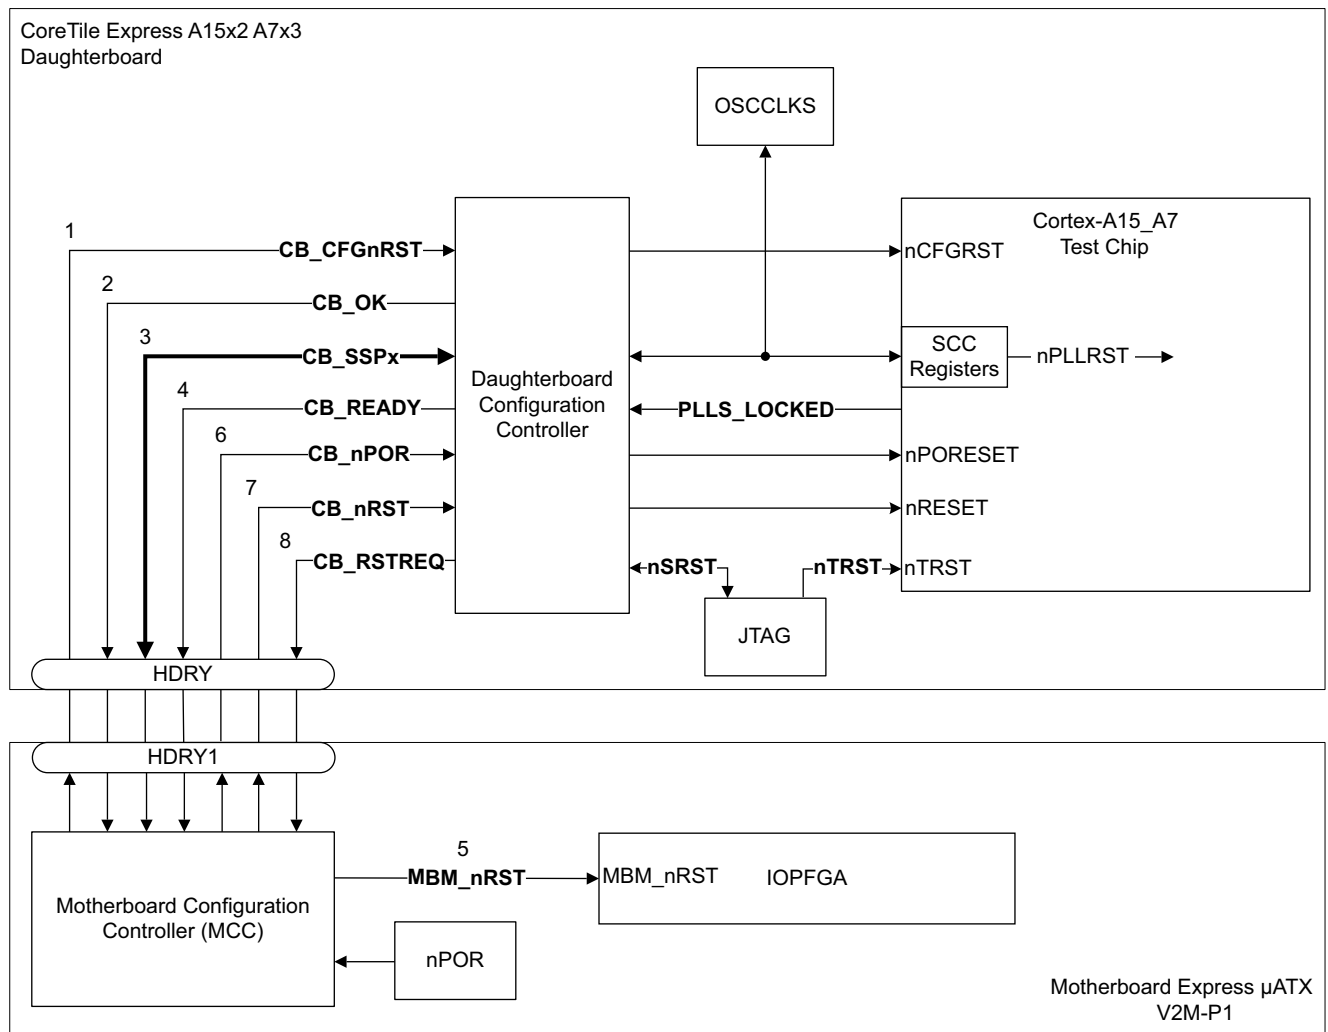
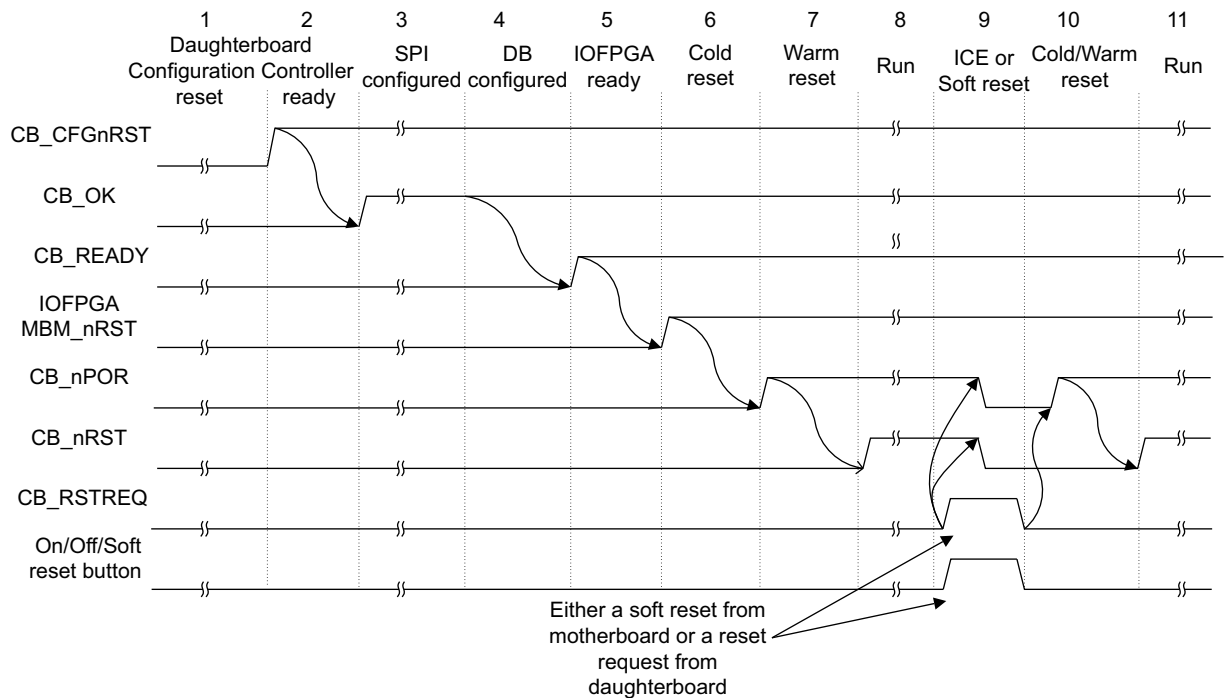

Figure 2-6 CoreTile Express A15x2 A7x3 daughterboard resets
Figure 2-7 CoreTile Express A15x2 A7x3 daughterboard configuration and reset timing cycle
Figure 2-6 on page 2-14 shows an overview of the daughterboard reset signals and includes configuration signals.
The numbers in Figure 2-6 represent stages in the reset and configuration process. See Figure 2-7 on page 2-15.
Figure 2-7 on page 2-15 shows the CoreTile Express A15x2 daughterboard power-up configuration and reset timing cycle.
a. Figure 2-7 on page 2-15 does not include these signals.